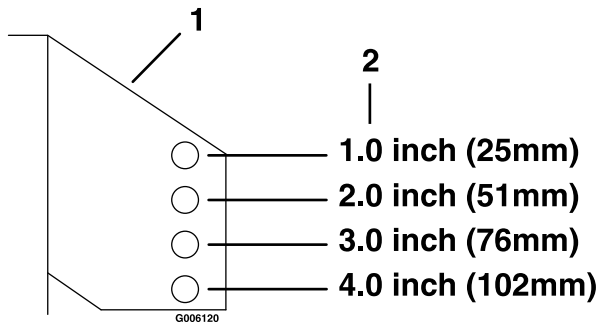

Figure 9
- Place the rollers in one of the positions shown (Figure 9). Rollers will maintain 3/4 inch (19 mm) clearance to the ground to minimize gouging and roller wear or damage.